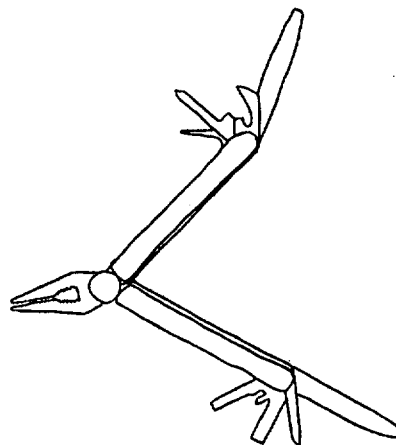

Figure 2-84. Knife, Pocket, Leatherman Tool
- bj. Knife, Pocket, Leatherman Tool. The tool (See Figure 2-84) is a multi-purpose tool that contains a three-inch knife blade, an awl, slot screwdriver, cross-slot screwdriver and pliers that fold and store compactly within itself.